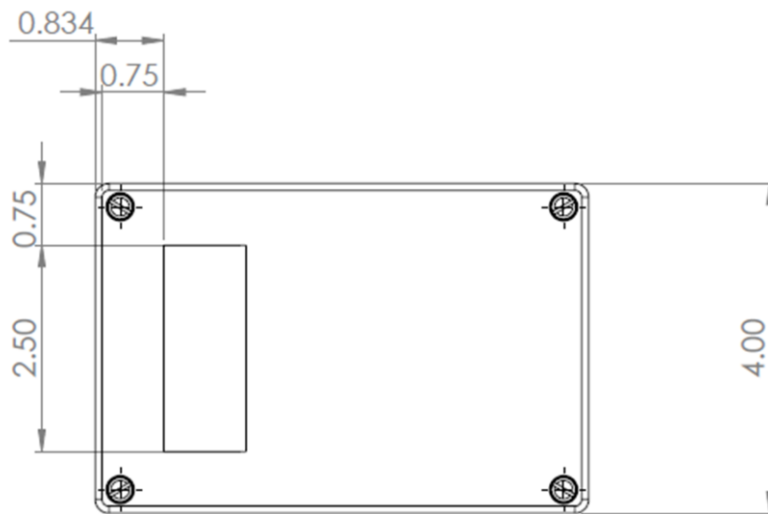

Fig. 7: Top Viewing Slot
- 1) Determine a Front Side of the Top Half. Orient the Box to the Top Face and locate a viewing slot as described in Fig. 7.